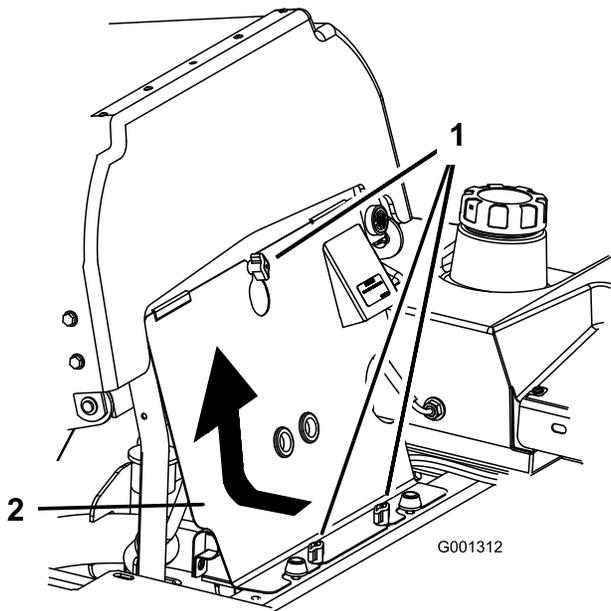

Figure 60
3. Loosen the front engine panel knobs and remove the panel (Figure 60).